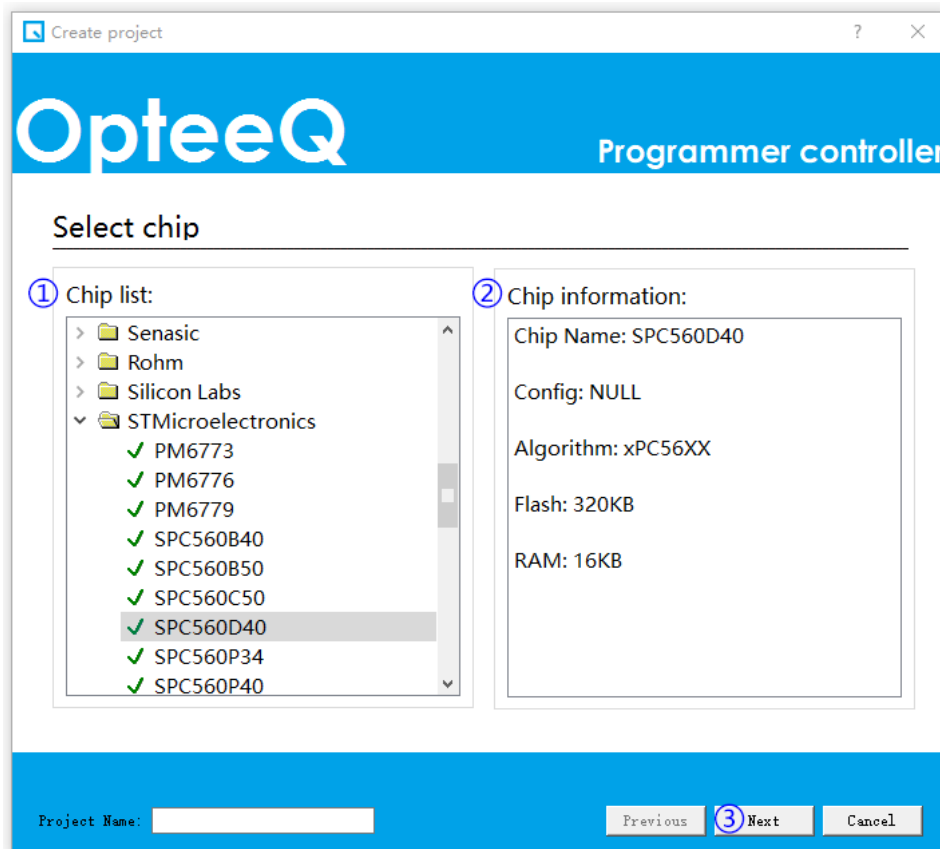

Figure 4.12: Step 2 - Project Creation Interface
2) Step 2: Pop up the "Project Creation Wizard" dialog box, as shown in Figure 4.12. It is needed to select a target chip to be programmed in the chip list (as shown in Figure 4.12-①).
Show the information of the corresponding chip after a target chip is selected (as shown in Figure 4.12-②).
Click "Next" after confirmation (as shown in Figure 4.12-③).